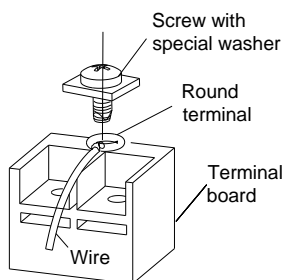

Fig. 4.37
- 4). Position the round terminal wire, and replace and tighten the terminal screw with a screwdriver.(Fig. 4.37)